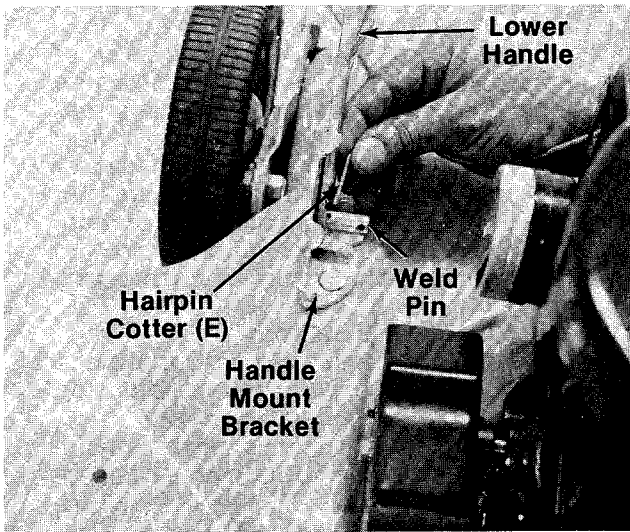

FIGURE 2.
- A (5) Hex Bolts 1/4-20 x 1.50" Long
- B (1) Hex Bolt 1/4-20 x 1.75" Long
- C (6) Hex Nuts 1/4-20 Thd.
- D (1) Ferrule
- E (3) Hairpin Cotter
- F (2) Cable Ties
- G (2) Hand Grips (Not Shown)
3. Place bottom hole in lower handle in position over weld pins in handle mount brackets on deck. The hole in the lower handle for the clutch rod must be on the **left** hand side. Secure by placing hairpin cotter (E) in inner hole on weld pins. See figure 2.